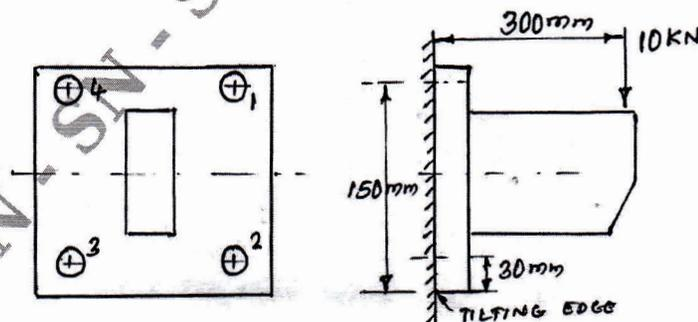

Fig.Q9(a)
- 9 a. A bracket is fixed to the wall by means of four bolts and loaded as shown in Fig.Q9(a). Calculate the size of bolts if the load is 10 kN and allowable shear stress in the bolt material is 40 MPa.